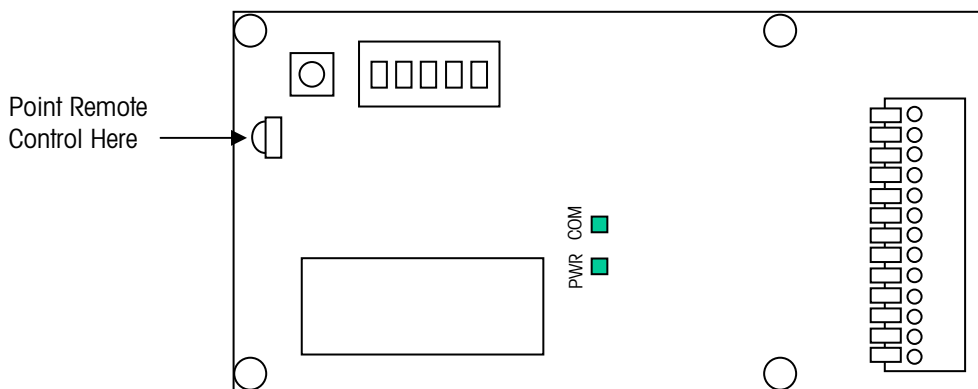

Figure 4-1: Infrared Receiver on Controller PCB
2. To set parameters, point the remote control at the receiver on the scoreboard's controller PCB (see Figure 4-1). Press the remote control's «OPEN» button several times until the display responds with **Code0**.